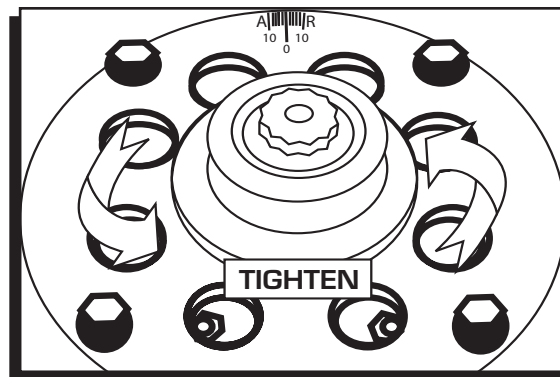

Figure 2 Installing the Timing Belt Pulley.
2. Install the camshaft pulley with the supplied cam adapter, washer and 12-point bolt (Figure 2). Note that the threads are reversed. Coat the threads of the bolt with 30-weight motor oil or ARP moly lube. Torque it to 90 lb-ft with motor oil or 70 lb-ft with the ARP lube.